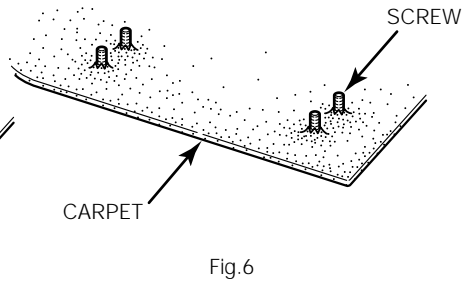

Fig.6
5. Push mounting bolts through a carpet. (Fig.6)